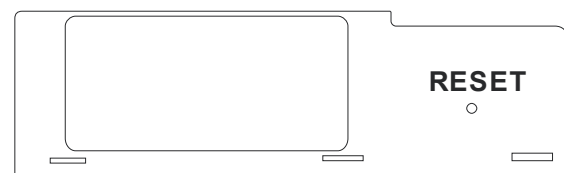

Figure 40
1. Press and hold, using a pointed object, the receiver's reset button until you hear two acoustic signals (see **Figure 40**).